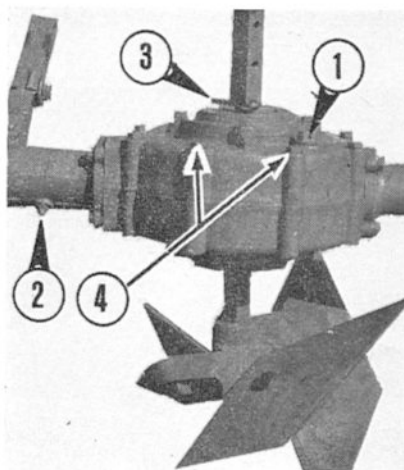

Figure 25
The Rotary Plow is attached to the Tractor by four bolts. Two bolts must be used to attach the Angle Adjusting Bracket, upper left in Figure 25.
Check the Gear Housing oil level every eight hours of operation. Gear Housing oil capacity is 1½ pints. Use SAE 140. Add oil by removing the Oil Filler Plug, 1 in Figure 25.
Use an occasional shot of General Purpose Grease in the swivel casting grease fitting, 2 in Figure 25.
Use the pin or clip, 3 in Figure 25, in the Hex Shaft for initial cutting depth adjustment. The higher on the Shaft the Pin is inserted, the lower the depth of cut and vice versa. Ordinarily, the Pin is inserted in the topmost hole for plowing and in the bottom hole for transporting.
The optional (at no extra cost) Dirt Shield is attached to the top of the Gear Housing by removing the bolts, 4 in Figure 25, inserting them through the Shield, and replacing in the Gear Housing. You can use the Dirt Shield to direct the throw of the dirt, by bending it up or down.
1. Leave the Plow Angle Adjusting Assembly (upper left in Figure 25) attached.